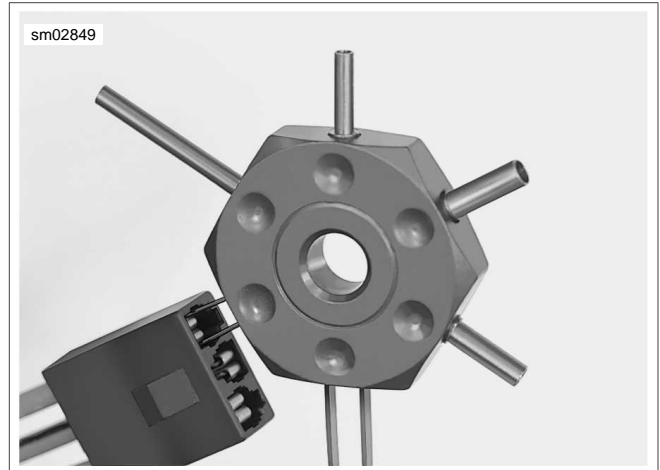
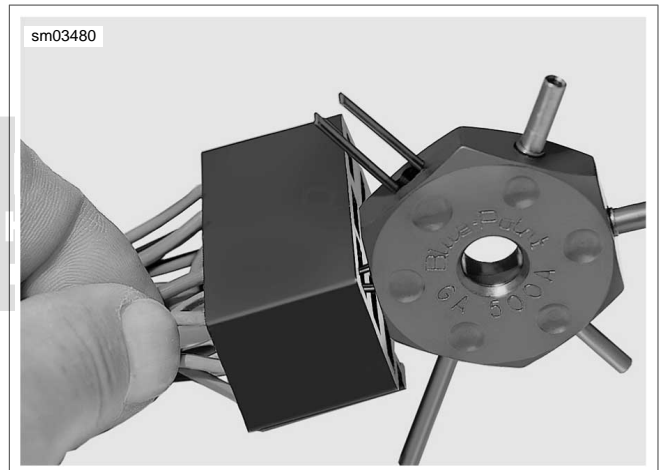

Figure A-8. Removing Autofuse Terminal from Ignition Switch
Figure A-9. Removing Autofuse Terminal from Fuse Block
2. See Figure A-8 or Figure A-9. Insert smallest pair of pins into chamber on mating end of socket housing to depress tangs on each side of terminal simultaneously.